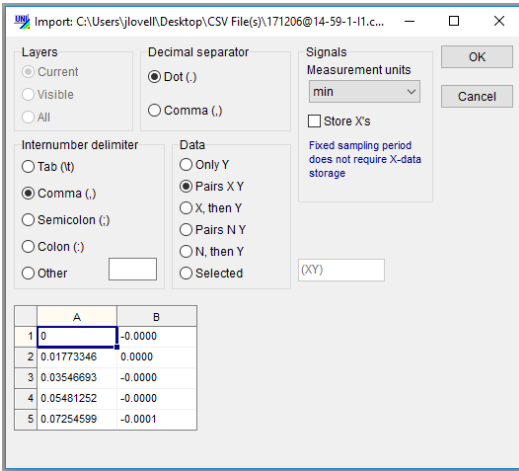

Figure 5: Modifiable variables
- Another window opens with different variables to modify; however, these should not need to be changed but should match Figure 5.